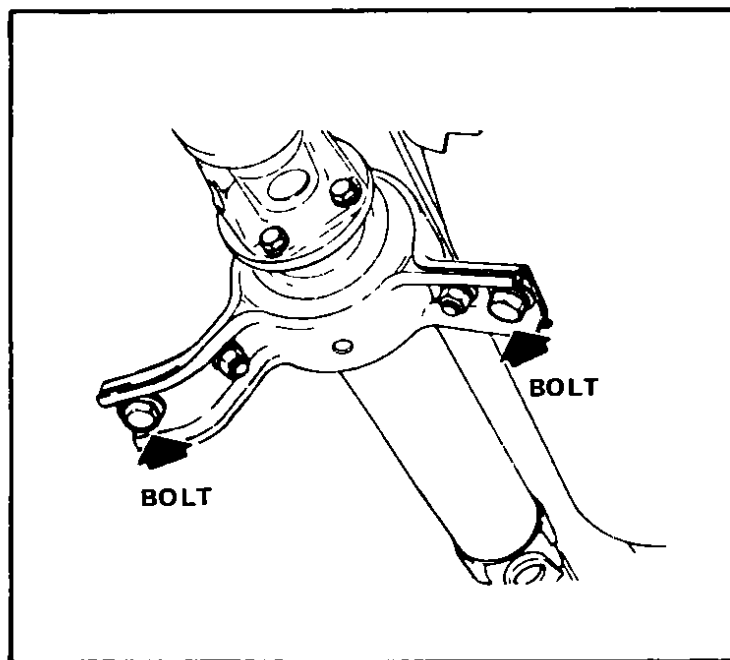

Fig 147 Removing center bearing support
- 2 Remove the bolts connecting the shaft to companion flange. Remove the bolts retaining the center bearing support, Fig 147.